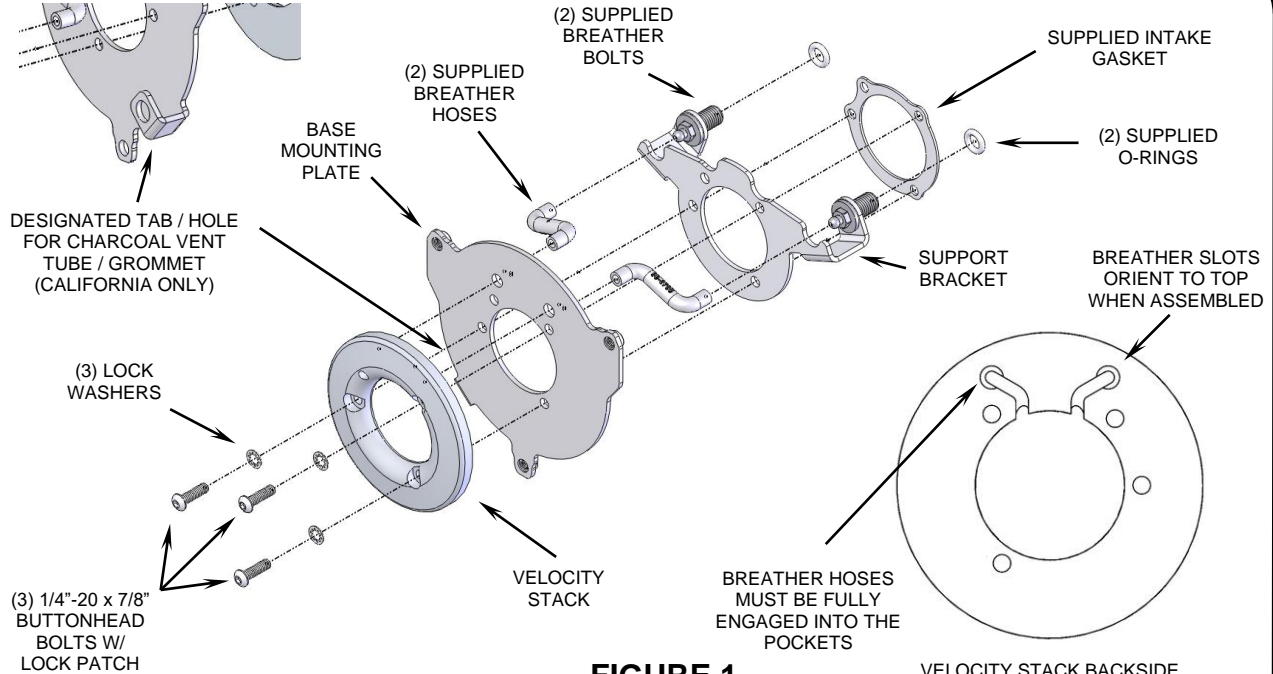
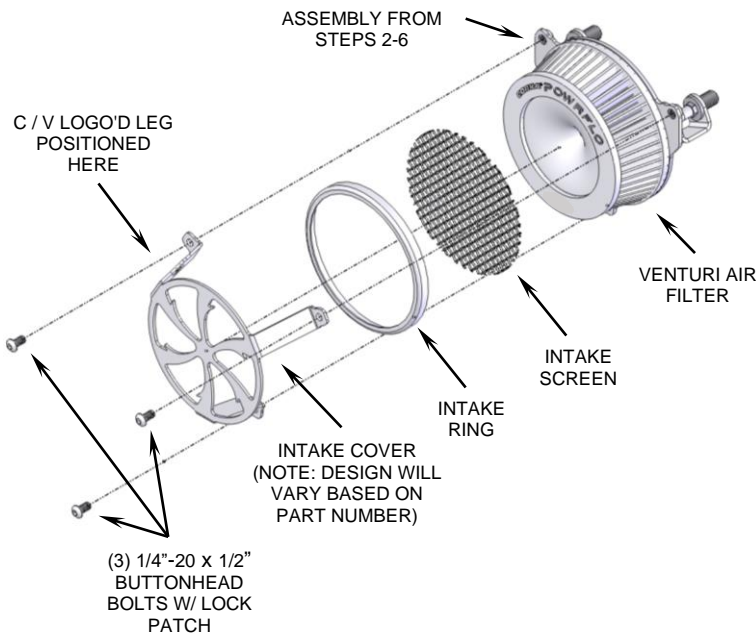

FIGURE 1
FIGURE 2
1. Remove the (2) allen bolts from the center of the stock air cleaner to remove the cover. Remove the (3) bolts securing the air filter. Remove the stock (2) breather bolts from the cylinder heads. Discard the air box, air filter, hardware and seals/gaskets.
3. Insert the (2) supplied breather hoses through the mounting plate and into the velocity stack with the hoses rotated outward, as shown in Figure 1. Make sure the breather hoses are bottomed out in the back of the velocity stack.
*NOTE: California models will need to install the vent tube grommet into the designated hole in the mounting plate, see Figure 1.*
4. Insert (3) supplied 1/4"-20 x 7/8" buttonhead bolts with lock washers through the mounting holes in the velocity stack and base mounting plate, then position on top of the installed support bracket (Step 2), intake gasket and start threading the buttonhead bolts into the throttle body, but do not tighten. See Figure 1.
5. Snug the (3) buttonhead bolts evenly, and then fully tighten them to the throttle body. Fully tighten the (2) breather bolts from Step 2.
7. Place the supplied air filter onto the velocity stack. Insert the round intake screen into the black ring so the screen sits inside the edge of the ring. Place the ring and screen between the legs of the naked black intake cover as shown in Figure 2.
8. Place the naked intake cover, ring and screen assembled in Step 7, over the air filter and align each leg to the base mounting plate threaded holes. Be sure screen sits at a 45 ° angle to the bottom leg, and C/V logo'd leg is at the upper left position. Insert the (3) supplied 1/4"-20 x 1/2" buttonhead bolts through the intake cover and into the base mounting plate, see Figure 2. Double check all parts are aligned properly and tighten securely.